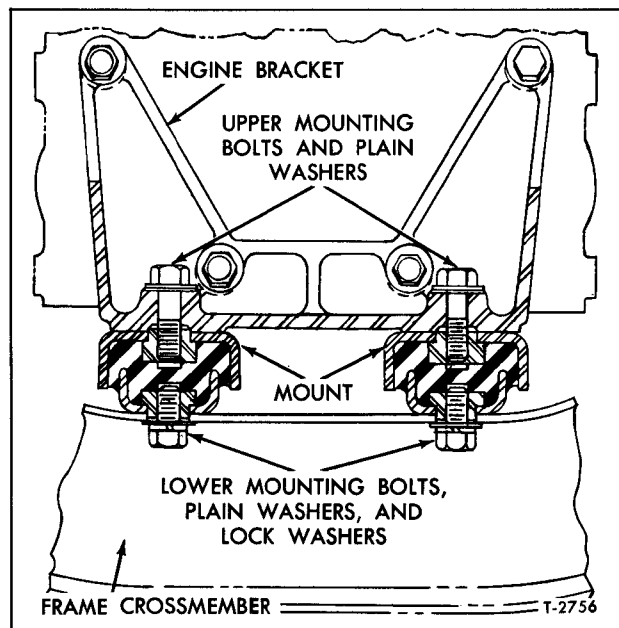

Figure 2—Engine Front Mounting on Conv. Cab Models (6V-53 Engine)
1. Referring to figure 2, remove bolts and washers which attach engine front mountings to frame crossmember and bracket on front of engine.
3. Place the new mountings in position shown in figure 2 (widest part toward engine bracket). Lower engine into place on mountings.